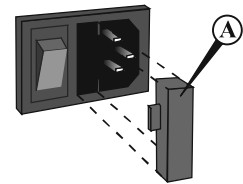

Fig.2 Fuse replacement
**Replacement of fuses.** Disconnect from the outlet. Remove the power plug from the rear of the unit. Pull out the fuse holder by applying leverage in recess (fig.2/A). Remove the fuse from the holder. Check and replace with the correct fuse if necessary (3, 15 A for 100-240 V, 50/60 Hz).